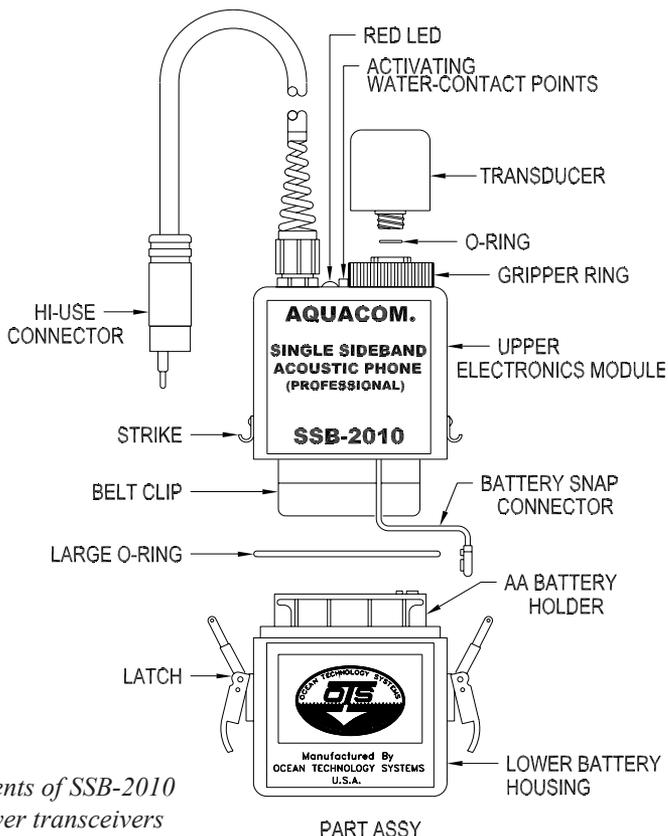

Figure 2. Components of SSB-2010 and SSB-1001B diver transceivers
The housing is divided into two major parts: the upper electronics and the lower battery sections (Fig. 2). An o-ring between the sections maintains the housing's watertight integrity. Stainless steel latches maintain a constant pressure that pre-loads the o-ring and prevents leakage within specified depths. (*Note: The upper and lower housings are a matched set; do not mix them up among transceivers.*)
2.10.1 TRANSDUCER: The transducer provides the “antenna” for the transceiver. It is removable via a connector mounted on the top of the housing. A large ring provides a means to easily remove and reinstall the transducer (Fig. 2). When using the RB-11 nickel-metal hydride (NiMH) battery pack (optional with the SSB-2010), the transducer’s housing connector is also utilized to charge the battery pack (see Section 4, Battery Installation and Charging). This feature makes it easy to charge the NiMH battery pack without having to open the transceiver.
STEP 5: Locate the two activating water-contact screws on the top of the upper module between the transducer gripper ring and the red LED (Fig. 2). Moisten your fingers and place them across the screws to activate the unit (hold onto the screws for about 10 seconds). The unit will stay on for approximately 2 minutes out of water. The red LED will illuminate while power is on.